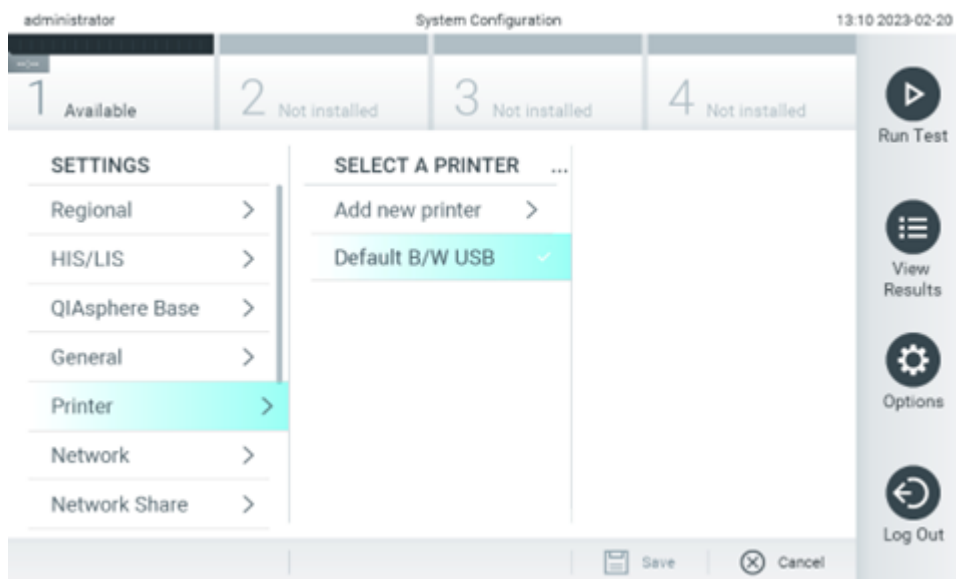

Figure 103. Printer installation with default driver.
2. Select the default printer called Default B/W USB (Figure 103).